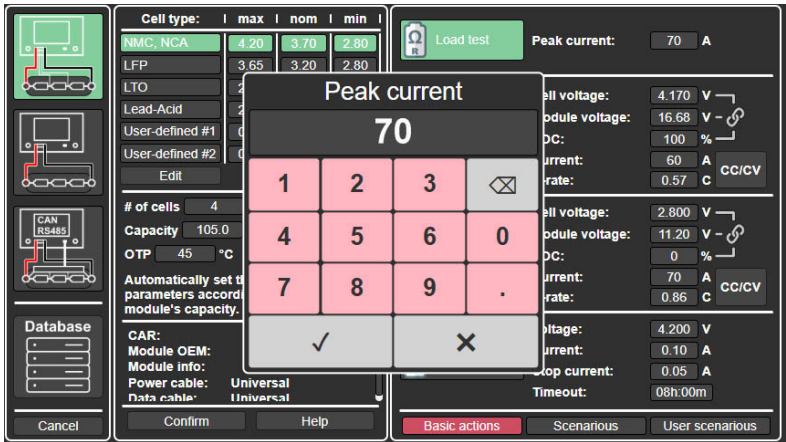

Figure 19
- 4) Set the **test current value** (see Section 6.4.1 for details). Clicking on the current value opens a window where it can be edited (see Fig. 19).